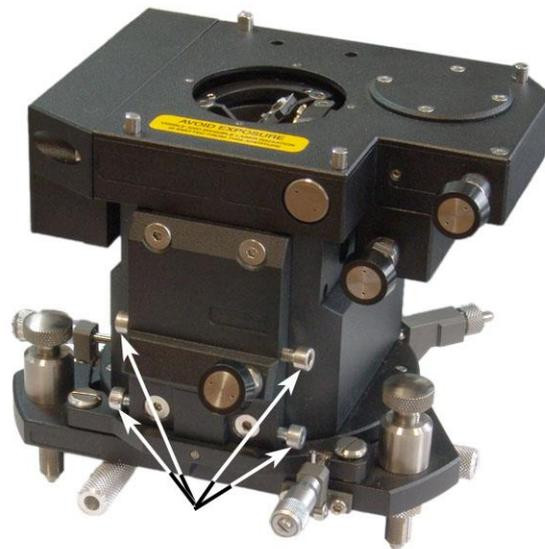

Fig. 8-14. Measuring head.
2. Unscrew four screws for fixing the side illumination module on the measuring head. These screws are at the front side of the lens holder (see Fig. 8-14).